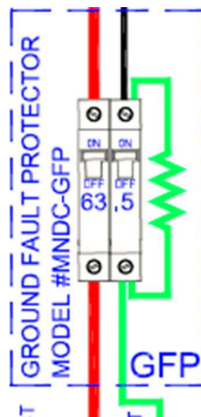

Figure 23 - Ground Fault Protection Assembly
- If PV Ground Fault Protection is required a PV Ground Fault Protection (GFP) Assembly can be installed. See Figure 23